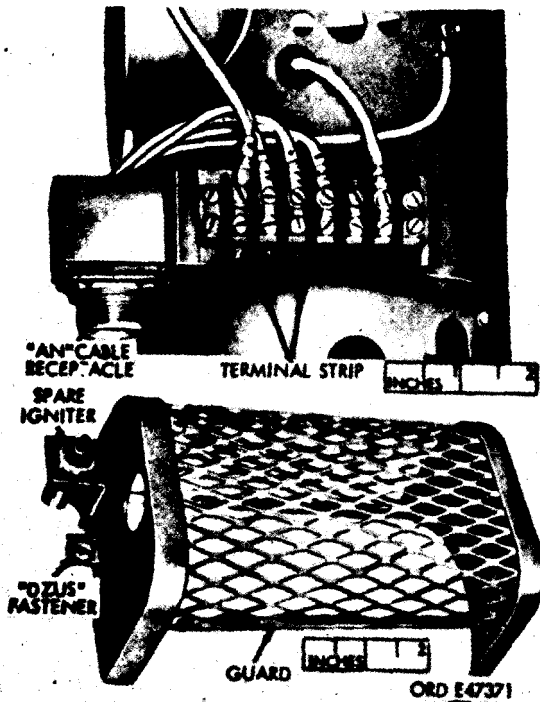

Figure 582. Terminal strip and guard
- (12) Terminal strip (fig. 582). A terminal strip consisting of six terminals, is provided on top of the heater housing to facilitate disassembly.
(13) Protective cover guard. A heavy mesh protective cover guard (fig. 582) is secured to the top heater housing by means of two Dzus fasteners. This cover protects the heater components located on the top of the housing. The heater wiring diagram is mounted inside the cover.
Note. Latest type control box (fig. 582) with press-to-test indicator light does not have safety valve reset switch because the safety valve has been eliminated.